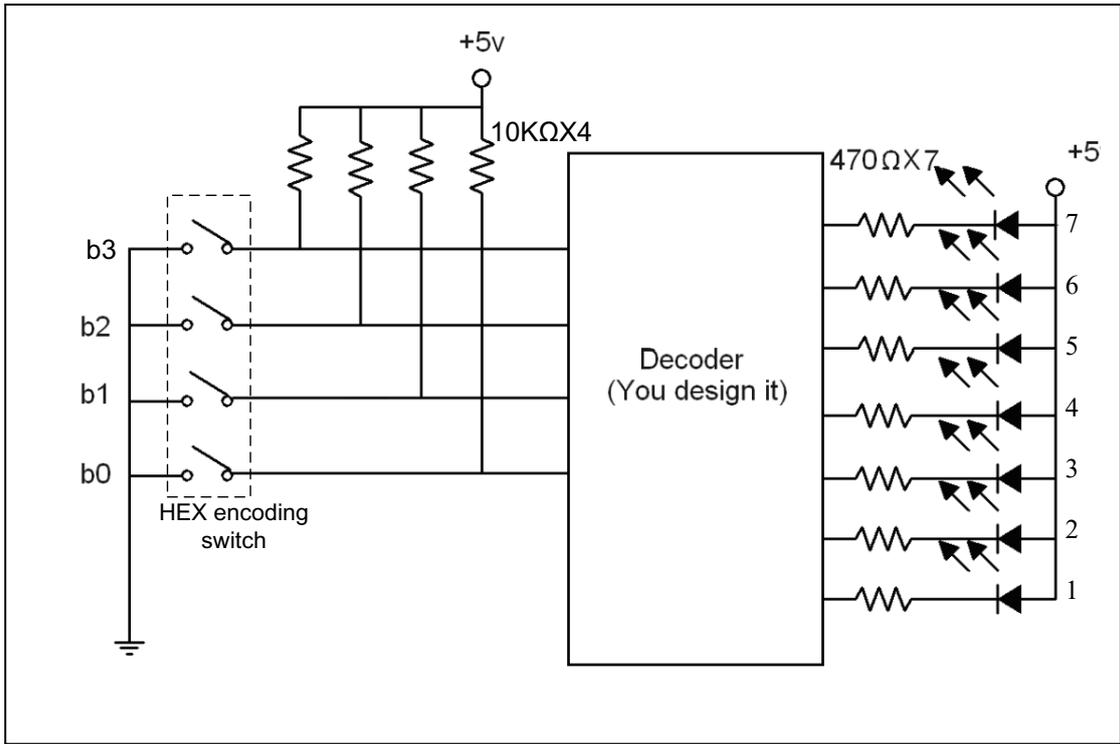

Fig. 1. Block diagram of a modified linear decoder.
2. Fig. 1 is the block diagram of the entire circuit. The input to the decoder is a HEX encoding switch, and the output of the decoder connects to 7 LEDs or an LED array. If the input is  $0 \leq n \leq 5$  (binary coded using  $b_0$  to  $b_2$  of the DIP switch), then the LEDs numbered  $(n+1)$  and  $(n+2)$  are light. **For example, if  $n = 5$ , then number 6 and number 7 LEDs should be illuminated.**